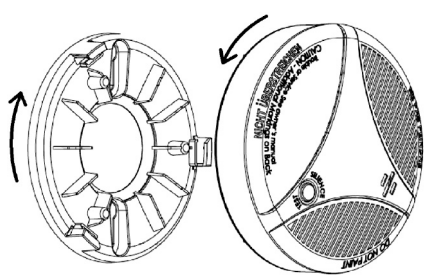

Figure 7: Removing the bracket
2. Remove the mounting bracket from your unit by rotating it counterclockwise, shown in Figure 7.